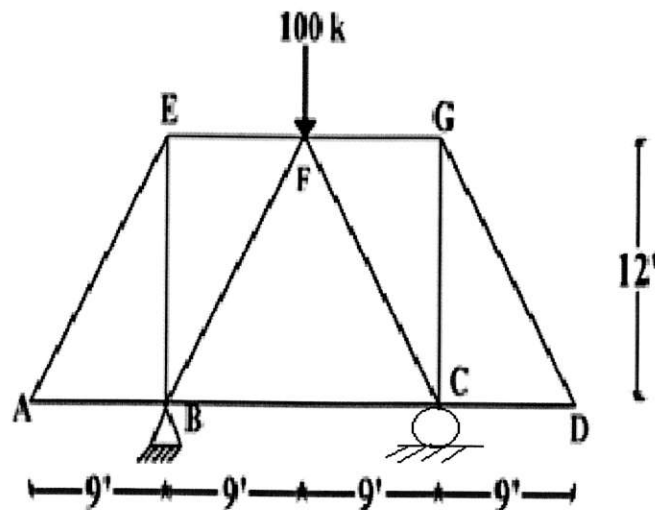

Figure 5
5. Compute vertical deflection of joint 'F' of the truss shown in **Figure 5**, $E = 30000 \text{ ksi}$, $A = 10 \text{ in}^2$ for all members.